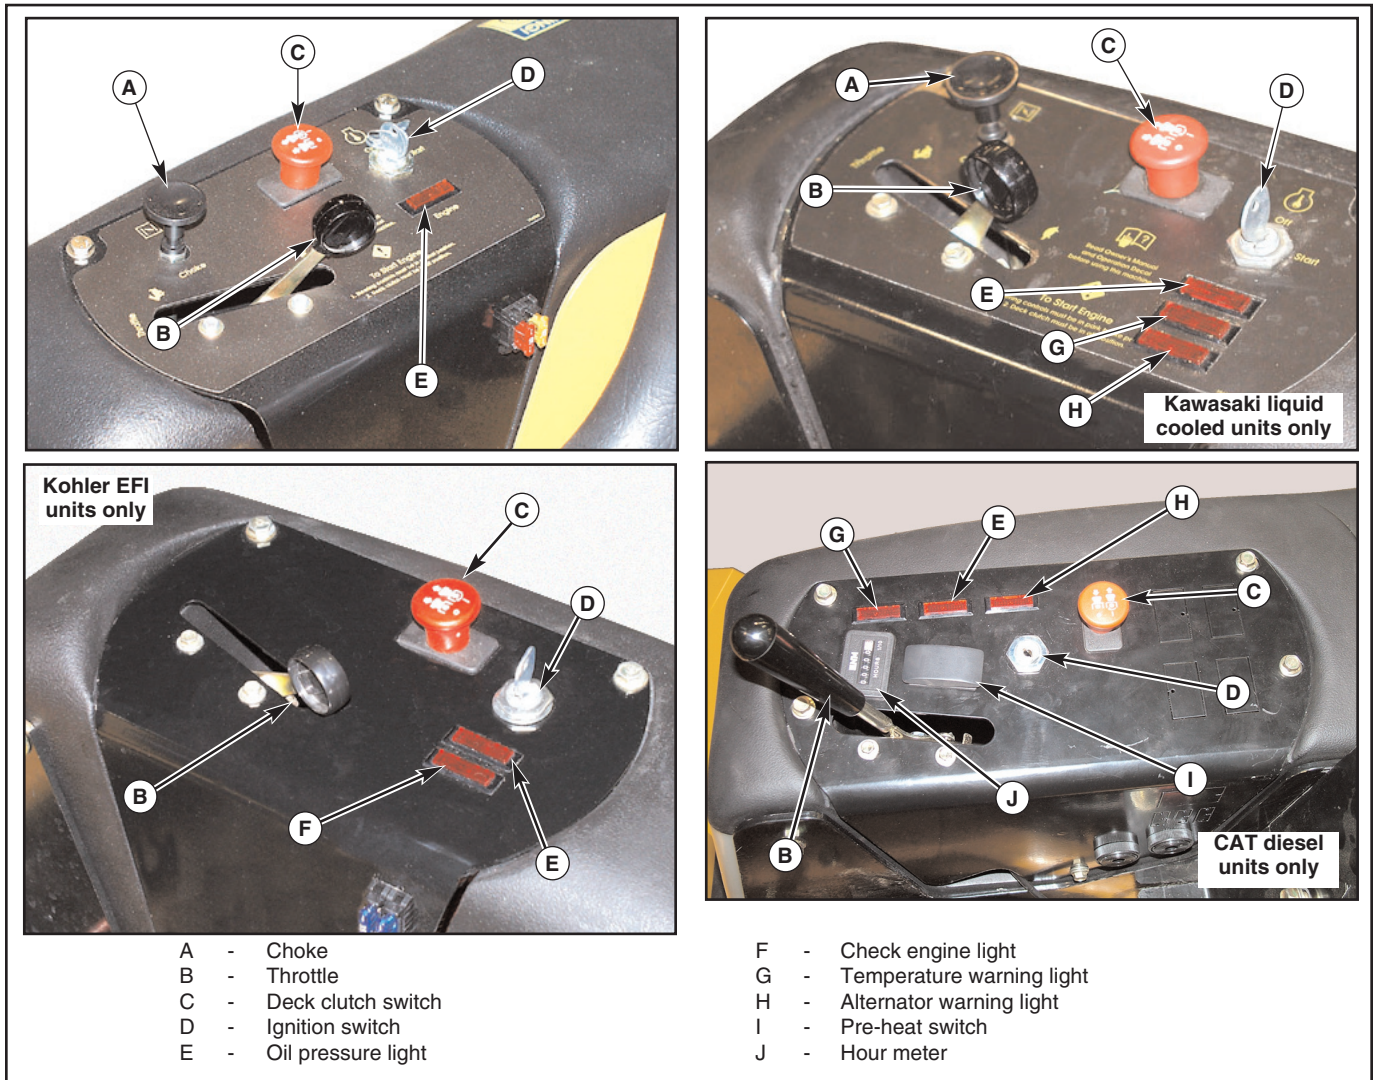

Figure 3-1
- A. Choke control (Fig. 3-1)** – a cable is linked to manually operate the engine choke. When the lever is in the down position, the choke is in the off (run) position. When the lever is pulled up, the choke is in the on (start) position. **Do not** operate the machine in the on (start) position. **NOTE:** The choke control is not used on Models 927053 & 927061.
- B. Throttle control (Fig. 3-1)** — a cable is linked to engine throttle for controlling engine speed. Move lever forward to increase engine rpm, move lever rearward to decrease engine rpm.
- C. Deck clutch switch (Fig. 3-1)** — this switch engages the deck. Pull the switch up to engage and push switch down to disengage the clutch.
- D. Ignition switch (Fig. 3-1)** – a three position switch: off, run, and start. With key inserted, rotate it clockwise to START position; release key when engine starts, and switch will automatically return to the RUN position.
- E. Oil pressure light and alarm (Fig. 3-1)** — this light comes on
F. Check engine light (Fig. 3-1) — refer to Kohler engine owner's manual for details.
G. Temperature warning light and alarm (Fig. 3-1) — this light will come on when the engine coolant temperature reaches an unsafe level during operation. If light comes on, shut down the machine as soon as possible. Never risk continued operation when light remains on; high temperatures can severely damage the engine. Never risk continued operation when light remains on: high temperatures can severely damage the engine.
H. Alternator warning light (Fig. 3-1) — this light comes on when the ignition switch is placed in the RUN position and stays lit until the engine is running and the battery is being charged. If light comes on during operation, shut engine off immediately, locate and correct the problem.
I. Pre-heat switch (Fig. 3-1) — this is an intermittent rocker switch position. Turn ignition key to run, depress and hold pre-heat switch six (6) seconds to start engine.